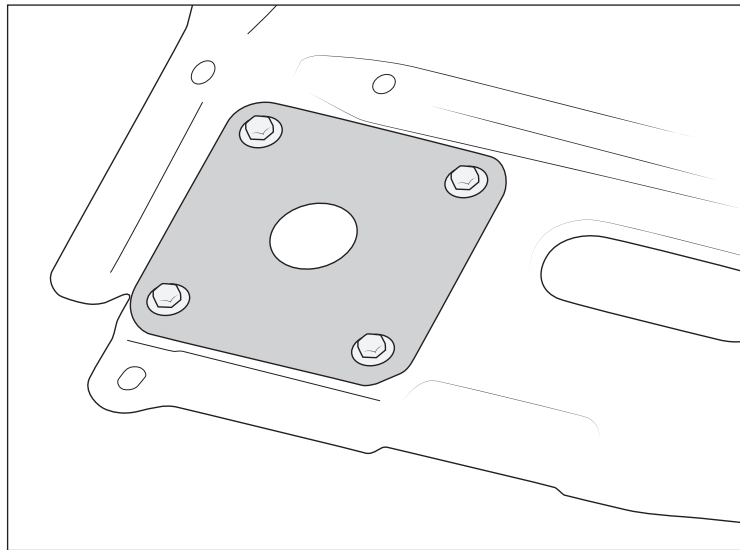

Figure 2
2. Install the Access Plate to the bottom of the skid using the four M8 bolt with captured washers (fig. 2).